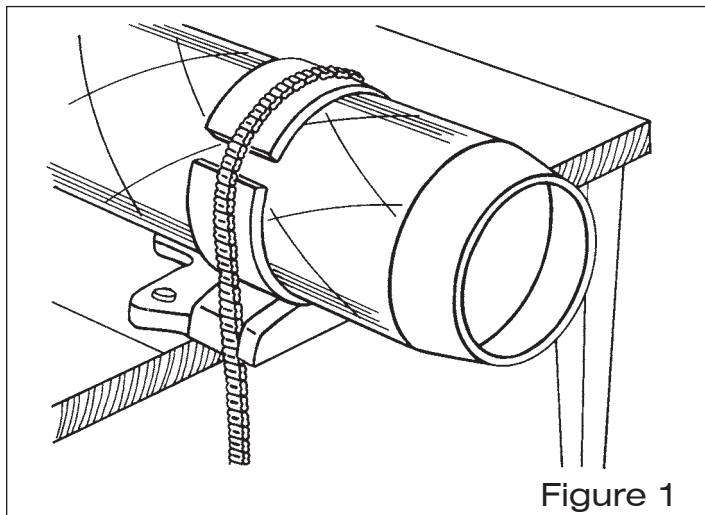

Figure 1
1. Clamp pipe that has been tapered at the factory into position. To prevent damage to the pipe, protect it from metal surfaces with two 180 degree sections of the same size pipe. (See Fig. 1.) If possible, clamp the pipe at least two feet from the end of the pipe so it doesn't oval.